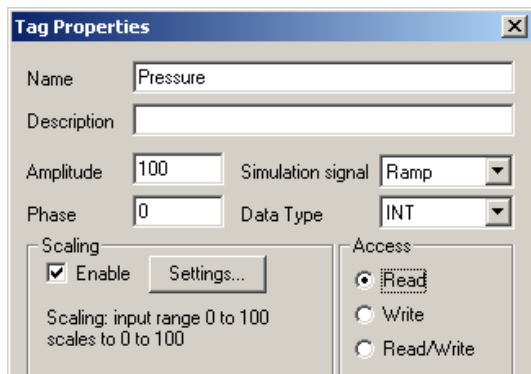

Figure 6 - Ramp Tag Settings
14. Specify a name for the item (for example, “Pressure”) and configure the tag and configure the same fields as you did with the previous tag. You can configure your tag similar to the settings in Figure 6. Click on **OK** when you are done.